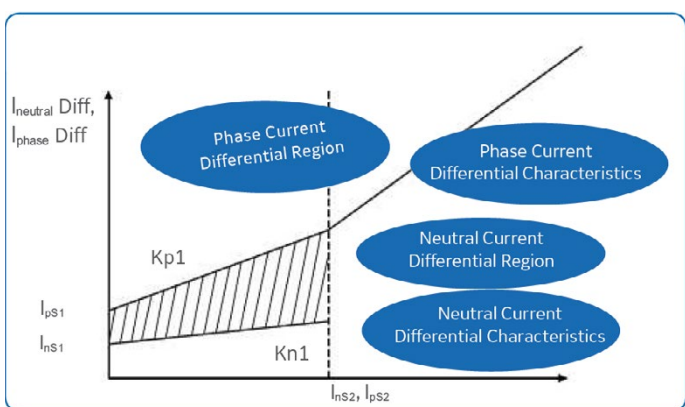

Figure 2: Differential protection characteristic
The P54 provides phase-segregated current differential protection. The measurement algorithm is extremely reliable, offering fast detection of internal faults and stability for external faults. The algorithm has a dual slope percentage bias restraint, as shown in Figure 2. The initial slope ensures sensitivity to low current faults, whereas the second slope is raised to counter the effects of current transformer (CT) saturation. An intelligent transient bias technique is also used to counter the effects of CT saturation, without compromising the operating time for internal faults.